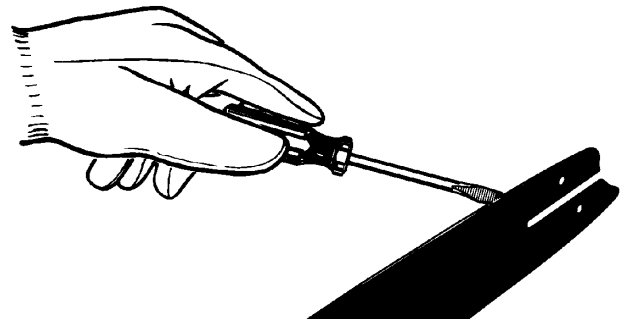

Fig. 29
2. Using a screwdriver, putty knife, wire brush or other similar instrument, clear residue from the rails on the guide bar. This will keep the oil passages open to provide proper lubrication to the bar and chain (Fig. 29).